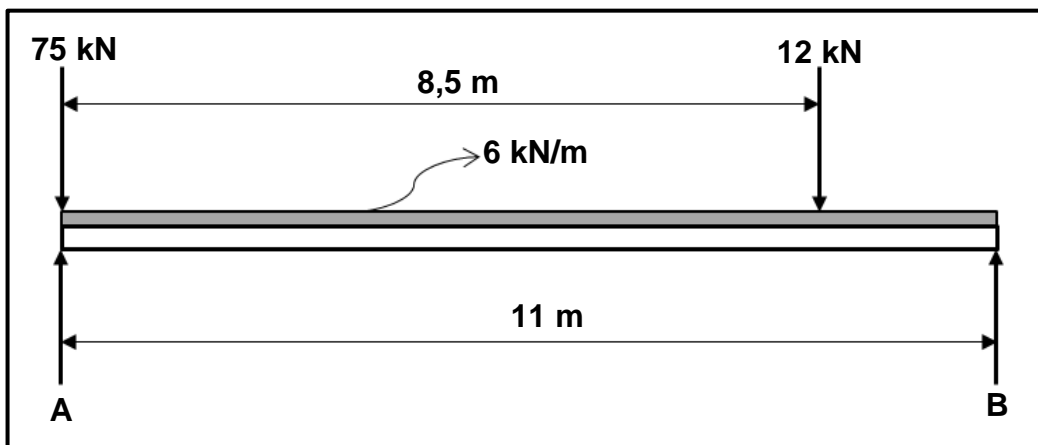

FIGURE 8.2
8.2 FIGURE 8.2 below shows a beam supported by two vertical supports, **A** and **B**. Two vertical point loads, as well as a uniformly distributed load of 6 kN/m, are exerted onto the beam.